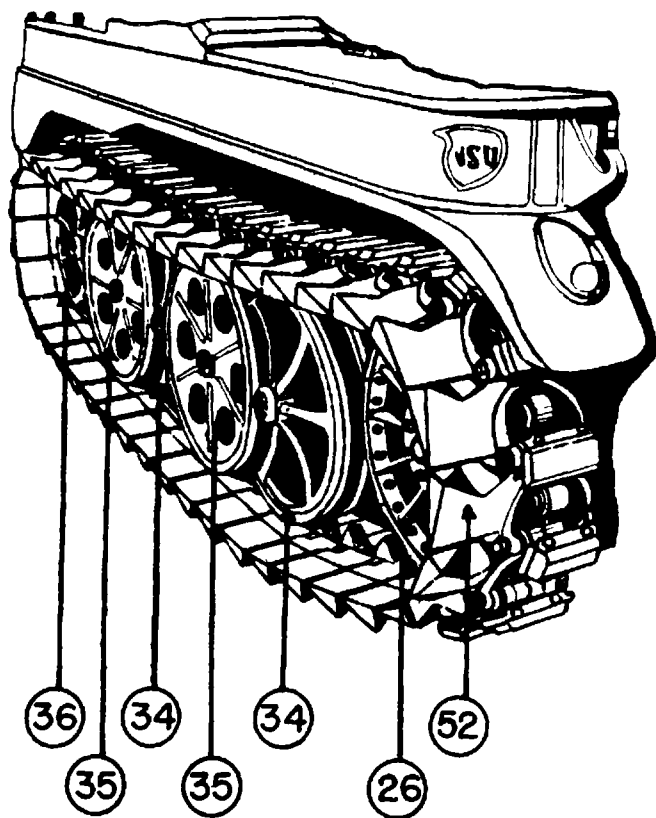

Fig. 2
A simple horse-drawn drag, suitable for transport of light loads, is shown in figure 2 of the sketch.
(7) Tracks
For special purposes, tracks in which the links have extension plates (52) welded to their outside (figs. 2 & 3) are provided. These are probably for use in very loose sand or swampy ground.
(8) Brakes